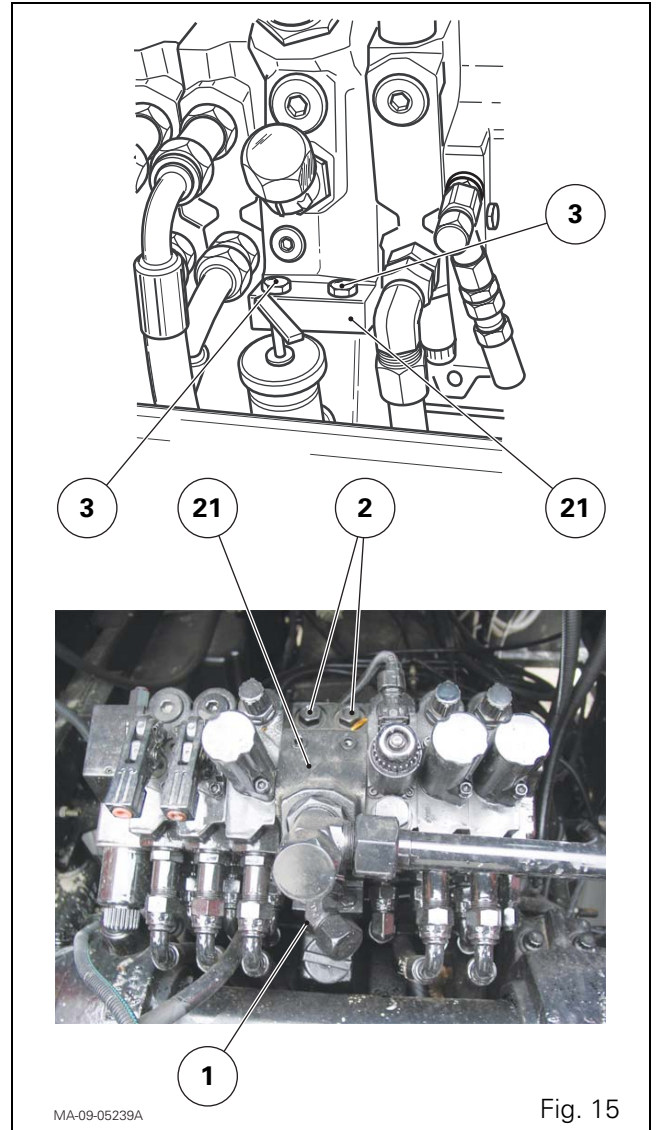

Fig. 15
5. Remove the screws (3) and flanges (2) from the manifold (21) (Fig. 15).
6. Sling the spool valve block. Separate it from the support (1). Place it in a clean work area.